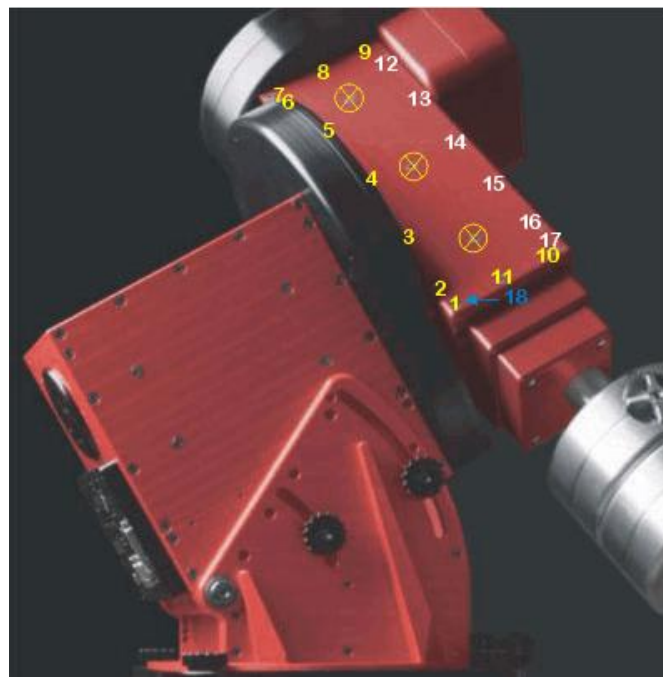

Figure 36: Screws required to remove the Dec Side Panel
- Five small Phillips flat cap screws, numbers 14-18 in Figure 36) along the bottom of this panel.
Remove the Dec box panel on the East side of the mount (see Figure 36).
- Eleven 1/2-in. flat socket cap screws surrounding the Dec panel (numbers 1-11 in Figure 36).
- Six socket head cap screws (12-17 in Figure 36) along the “top” of this panel.